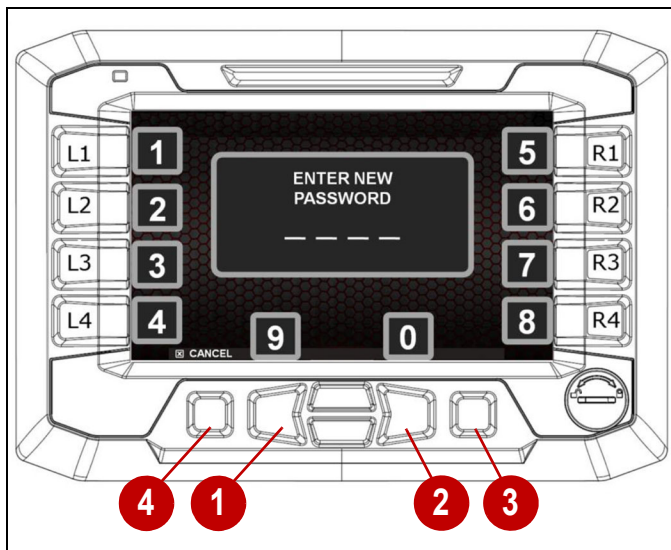

Figure 6-32
1. Press the L1–L4 or R1–R5 switches to select numbers 1–8 as shown on the password screen. Press the left arrow button (1) to select the number 9 or the right arrow button (2) to select the number 0. See Figure 6-32 on page 6-23.
2. Press button (3) to accept the selection.
3. Press button (4) to cancel the password change.